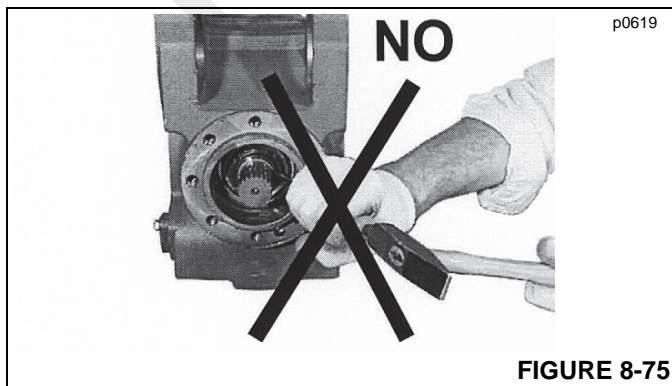

FIGURE 8-75
2. Position the center housing on a flat surface. Do not pry the ring nut out of housing (Figure 8-75). Damage to the bevel pinion threads will occur.